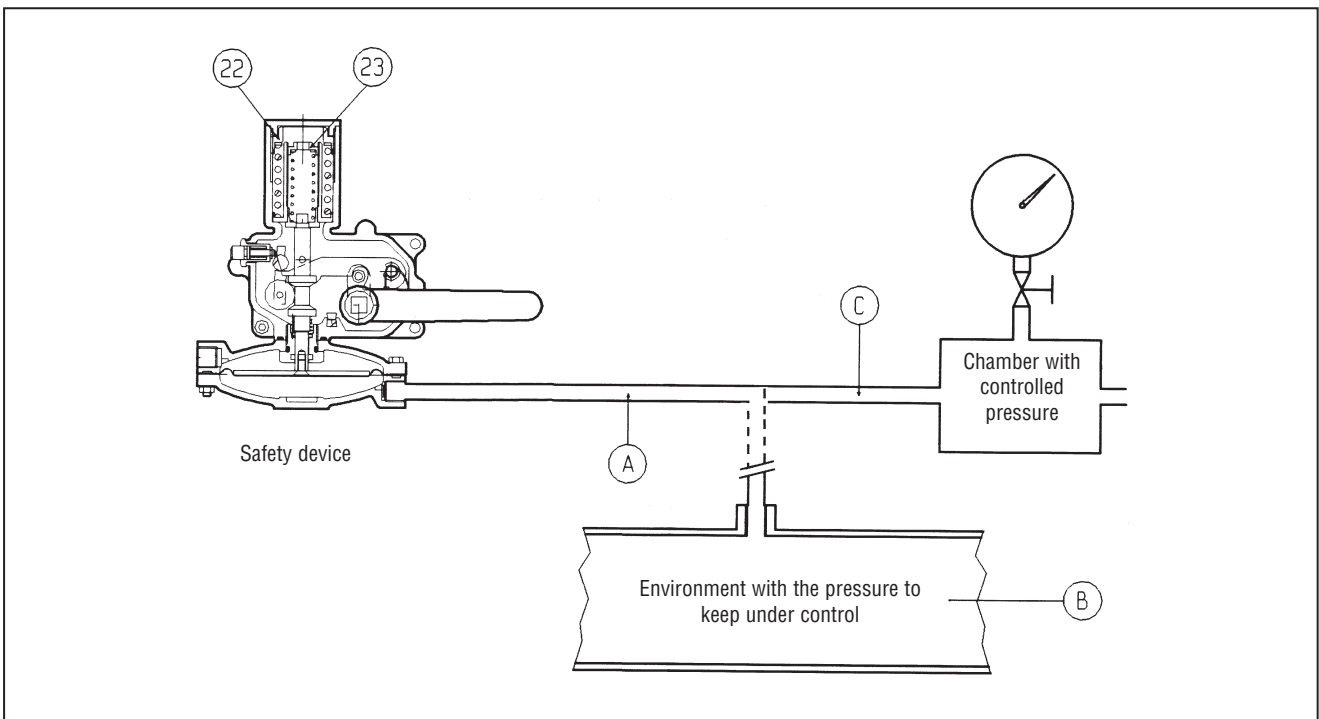

Fig. 18
B) On devices without the "push" valve (fig. 18) we recommend separately connecting the control head to a controlled auxiliary pressure and repeat the operations described above.
- B) With devices without the "push" valve, it is advisable to connect the control head separately to a controlled auxiliary pressure and repeat the operations described above (fig. 18).